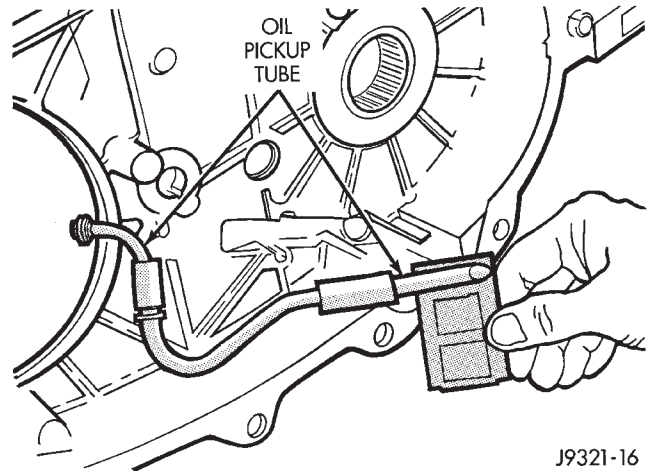

Fig. 25 Oil Pickup Tube Removal
- (5) Remove oil pickup tube from rear case (Fig. 25).